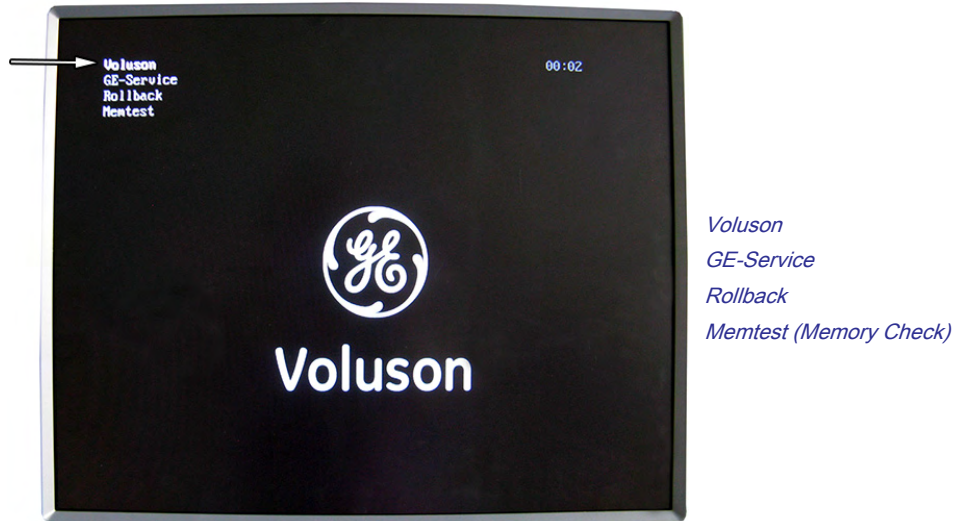

Figure 5-23 Boot screen
2. As soon as the “Boot Screen” appears (see: Figure 5-23 on page 5-45), press the **[PgDn]** (Arrow down) key on the keyboard until the **Rollback** item is highlighted, then press **Enter**.
- 2. As soon as the “Boot Screen” appears (see: *Figure 5-23 on page 5-45*), press the **[PgDn]** (Arrow down) key on the keyboard until the **Memtest** item is highlighted, then press **Enter**.